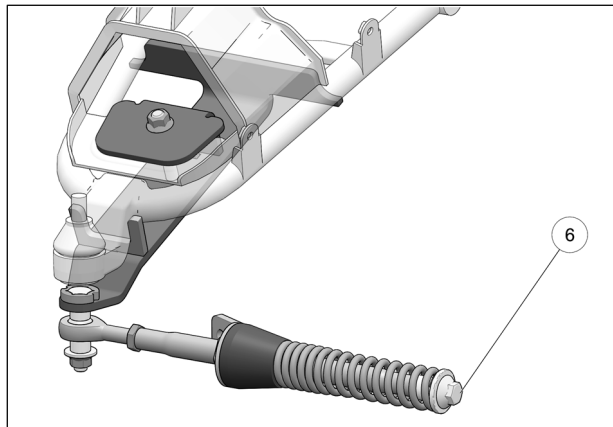

Fig. 18
- Make sure spring mounting bolt (6) is torqued to specification: 75 N•m [55 lb•ft]. Fig. 18